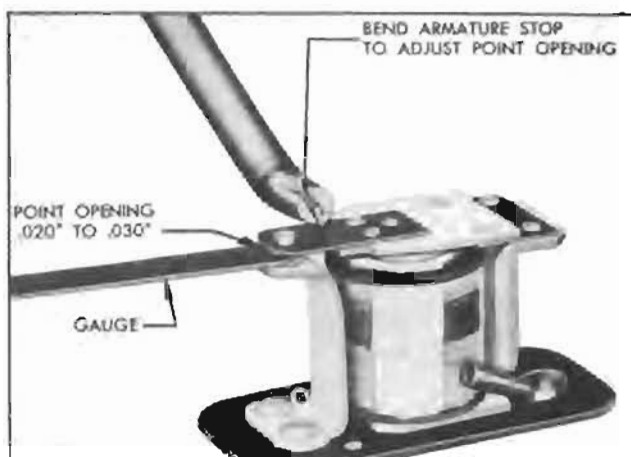

Figure 10-50—Relay Contact Point Adjustment
3. With armature free, check contact point opening with feeler gauges. Point opening should be between .020" and .030" and may be adjusted, if necessary, by bending the upper armature stop. See figure 10-50.